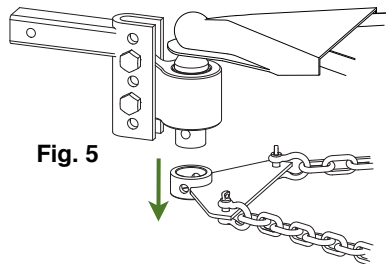

Fig. 5
5. Remove the Triangle Plate –you can leave the chains and shackles attached to it (fig. 5).